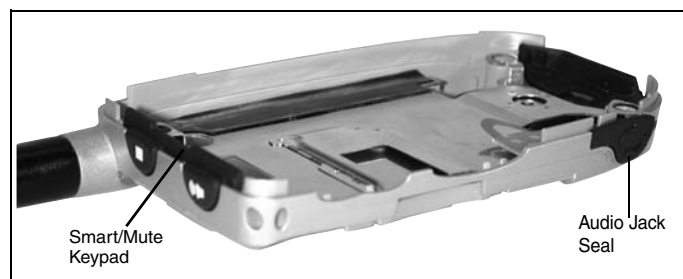

Figure 7-19.
1. Align Smart/Mute Button Keypad and Audio Jack Seal in the Back Housing Assembly (see Figure 7-19).